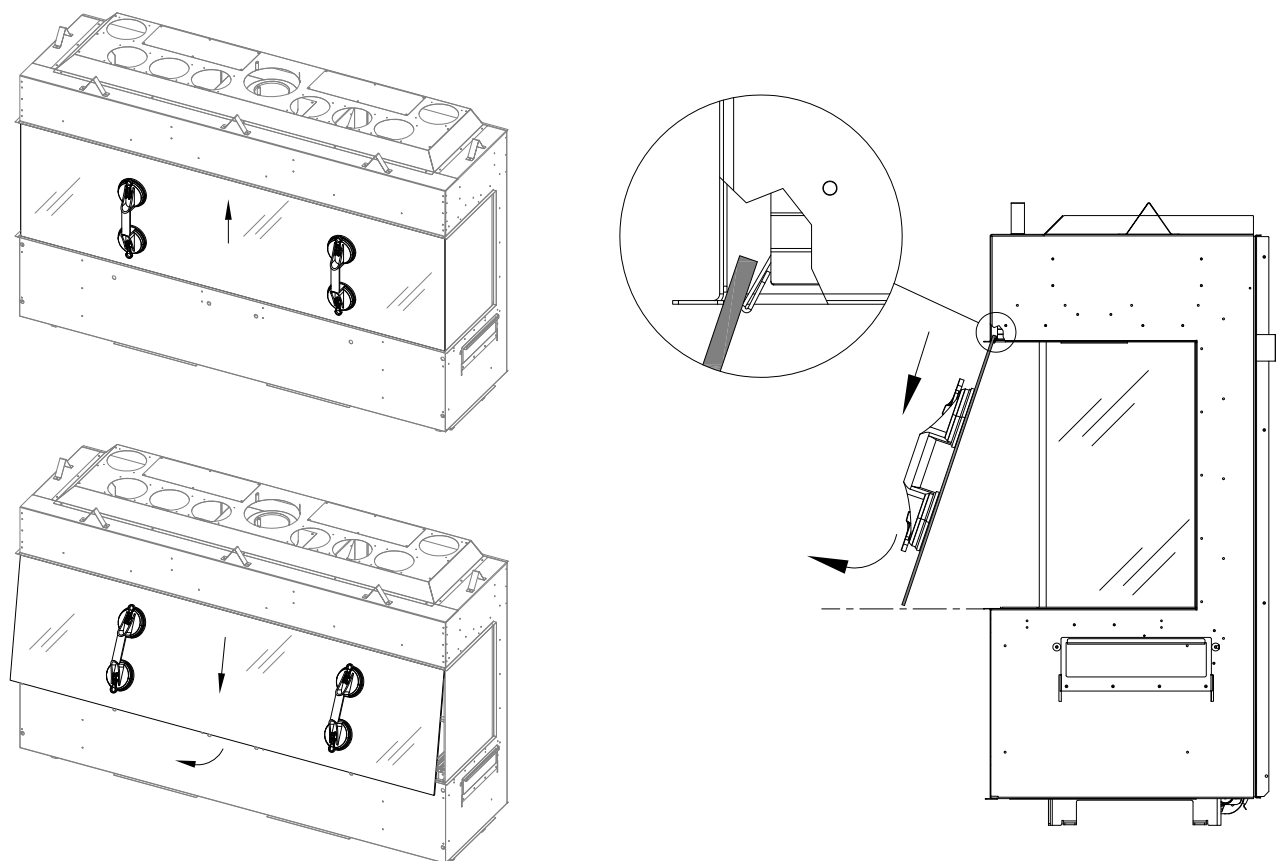

Figure 4.1 - Safety Glass Barrier Removal
1. Attach a suction cup to the side safety glass barrier pieces. Slide them towards the back of the fireplace to leave an approximate 1/4"-1/2" (6-13mm) gap between the side glass and the front glass. Next attach the suction cups to the front safety glass barrier. Remove the front safety glass barrier pieces as shown in Figure 4.1. Lift up the safety glass barrier and tilt the bottom edge of the glass towards you. Move the glass down and out to remove. Note: Depending on your fireplace configuration you may have one or two side safety glass barrier pieces.